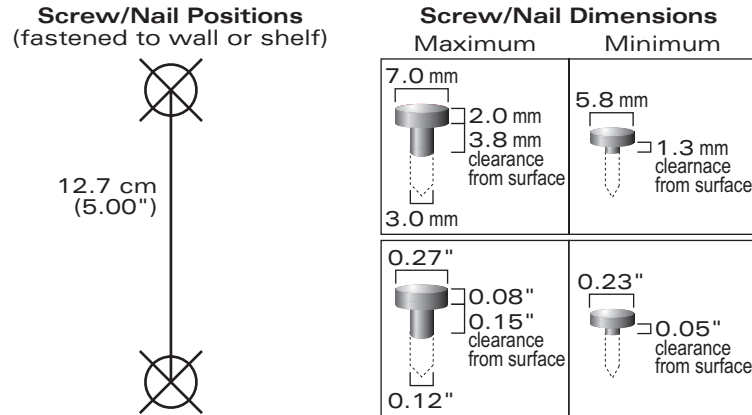

FIGURE 3-2 Mounting Screw Specifications
- 1 Install two screws in the wall or shelf as shown in Figure 3-2: